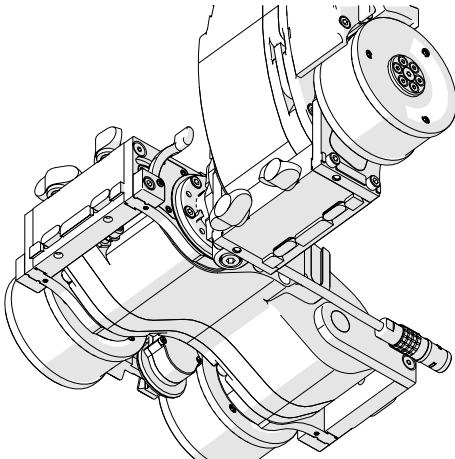
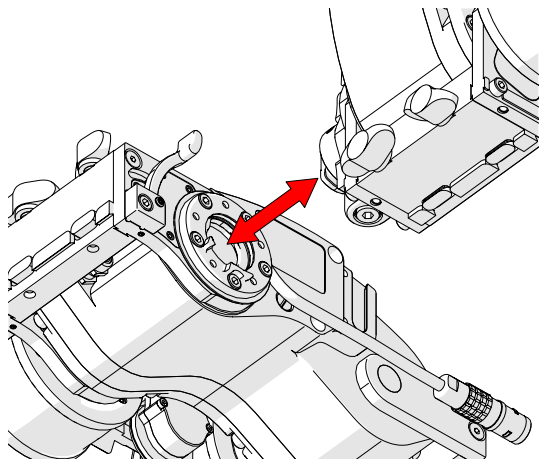

Fig. 137 - Rotate modules to 90°
Fig. 138 - Pull modules apart
2. Once the two modules are 90° perpendicular (Fig. 137), gently pull the two modules apart (Fig. 138).